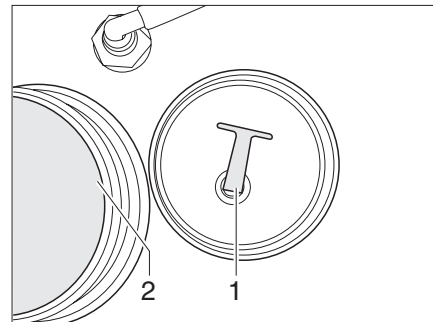

Fig. 125 Stopper
- Screw the stopper (Fig. 125,1) out of the drainage opening (Fig. 125,2).